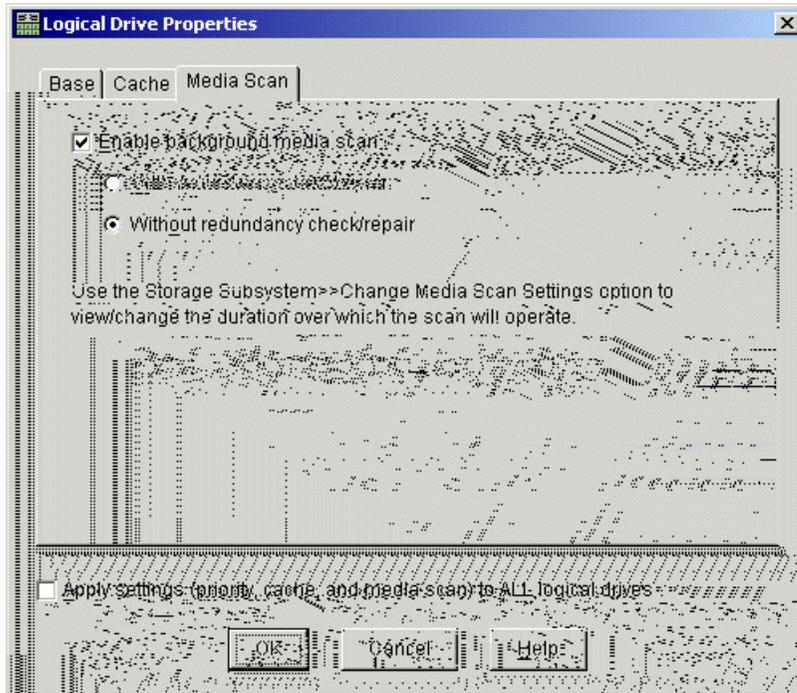

Figure 5-30 Logical Drive Properties
2. The Logical Drive Properties window is displayed, as shown in Figure 5-30: